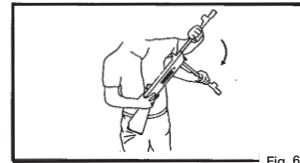

Fig. 6
- Pull the barrel downward until it stops (Fig. 6). Do not pull past this point and do not use excessive force or speed when cocking your airgun.
- Some find it easier to cock the airgun when bracing the butt of the airgun against your leg (Fig. 6).